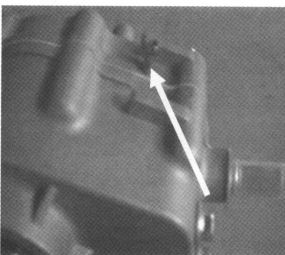

Fig.5
d. Gear box venthole keep gas free (See Fig.5)